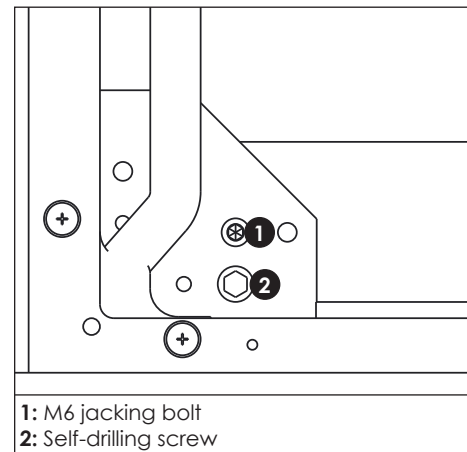

Figure 2: Standard Panel-to-Tube Attachment
1. Insert one self-drilling screw and one M6 jacking bolt in the lower-left and lower-right corners on each panel. Refer to **Figure 2**.